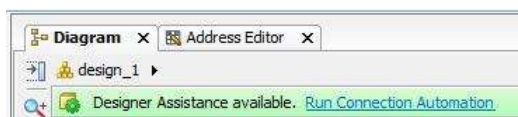

Figure 12: Run connection automation
1. Click **Run Connection Automation** as shown in Figure 12.